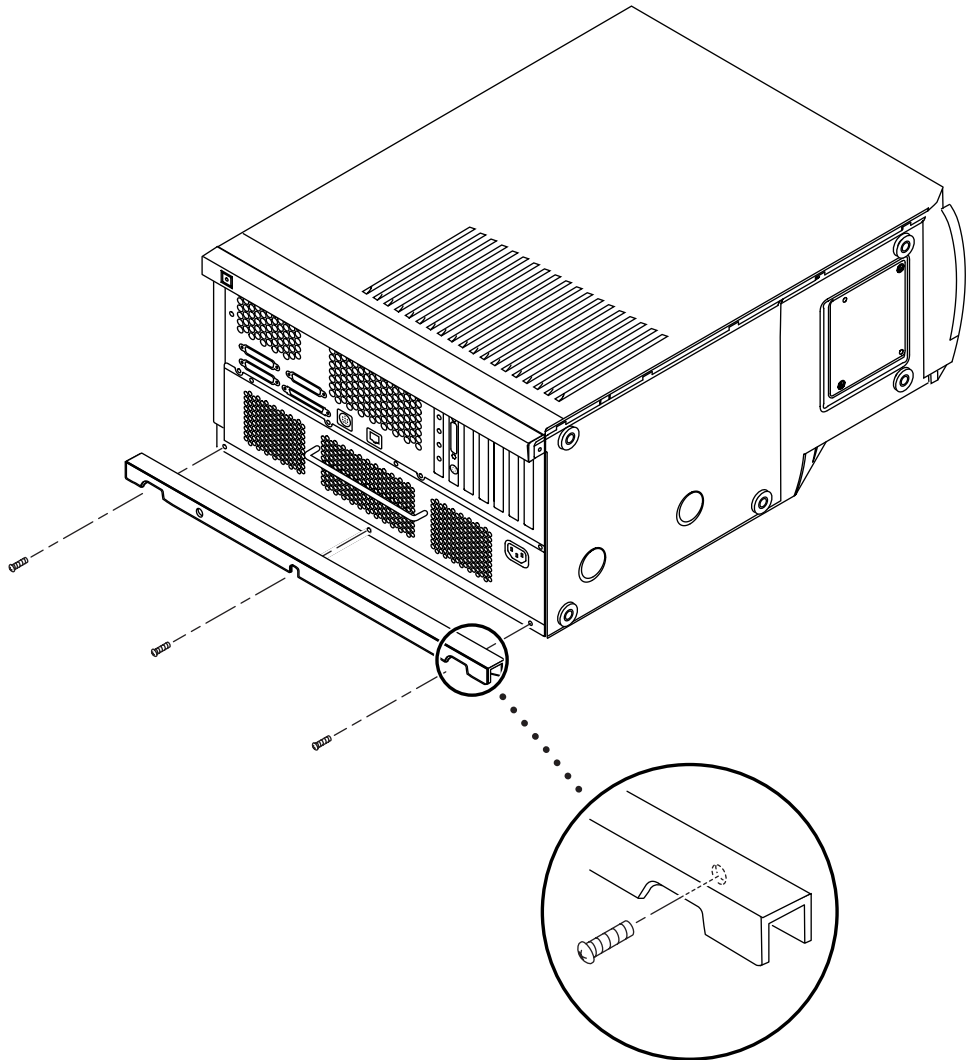

FIGURE 19 Fastening the Mounting Bar to the Ultra 80 System
4. Using the three screws you set aside in the previous step, fasten the mounting bar to the system (FIGURE 19).